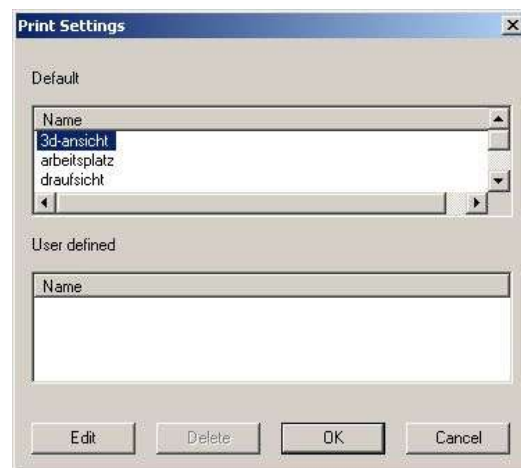

Figure 32: Select View for the Printout
- 4) The **Print Settings** dialog allows to select the view – **3d View** in the Figure 32.